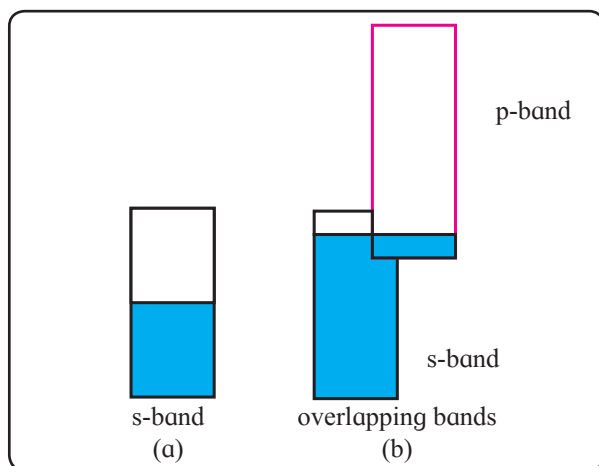

Fig. 1.23: Metallic conductor
1.9.2 Metals : Metals are good conductors of electricity. The outermost electrons of all the atoms in the metallic crystal occupy conduction band. The number of electrons in conduction band of metals is large. Hence metals are good conductors of electricity. The conduction bands in metals can be further labelled as 's' band (Fig. 1.23 (a)), overlapping s and p bands (Fig. 1.23(b)) and so on. This